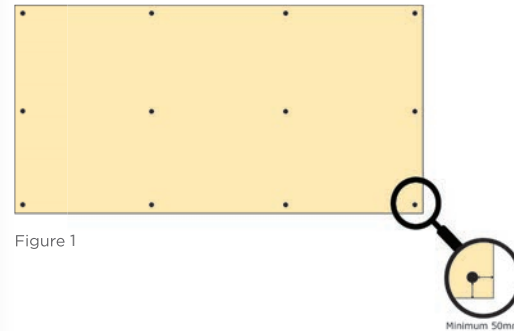

Figure 1
- Directly fix Celotex insulation to concrete soffit. Fixings should be installed 50mm (minimum) from the edge and corners of the board with a minimum of 12 fixings per 1200 x 2400mm board (see figure 1 for guidance).
- Insulation fixings should penetrate the timber battens by 30mm (see figure 1). Please refer to manufacturers recommendations.
- Fixings should be installed 50mm (minimum) from the edge and corners of the board (see figure 1 for guidance).